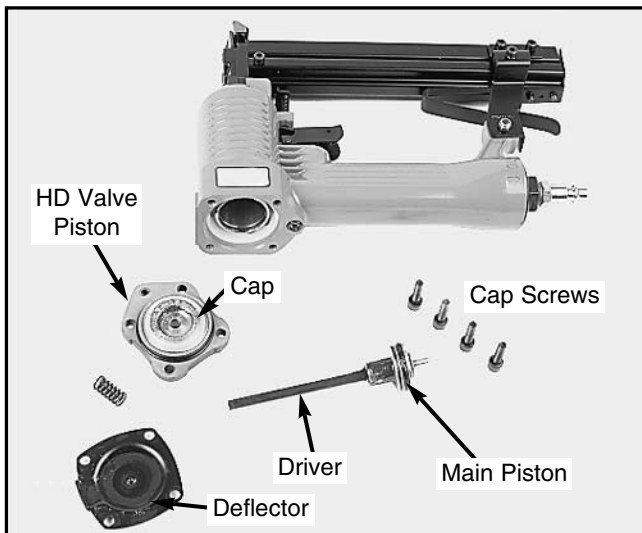
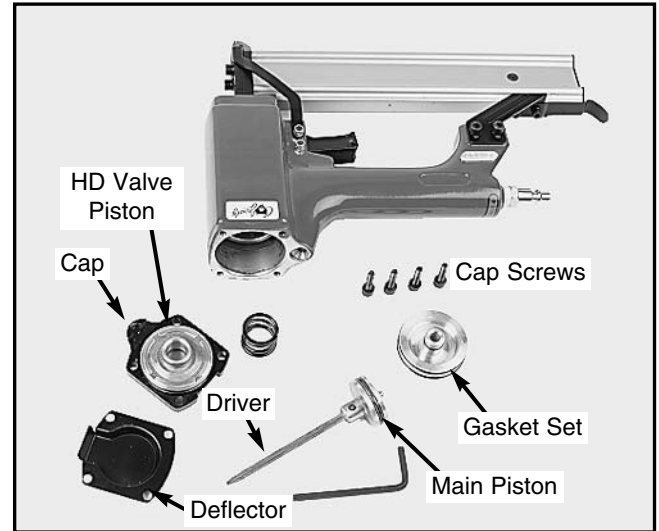

Figure 6. Stapler driver assembly.
Figure 7. Brad driver assembly.
3. **G1847/52:** Remove the 4 cap screws, deflector, cap, spring, and HD valve piston. Place them to one side. **Figure 6.** **G1861:** Remove the 4 cap screws, deflector, cap, gasket set, and spring. **Figure 7.**